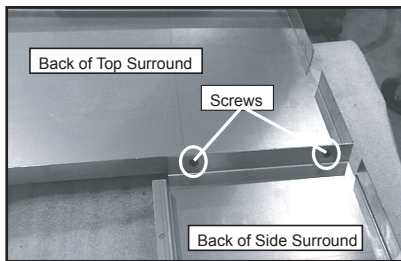

Figure 20.1
1. Secure the top panel to the surround sides with the screws provided. **Figure 20.1**